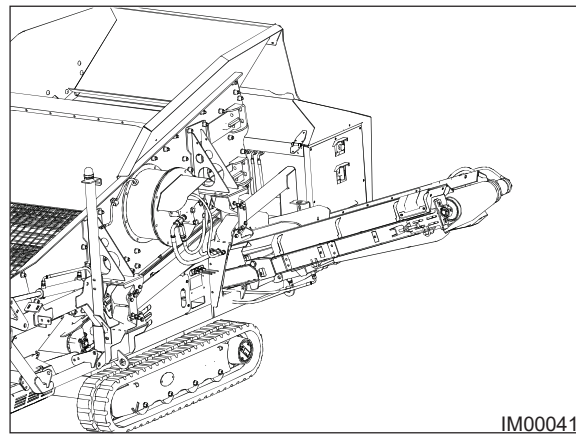

Fig: 7.14 - Fines Size Conveyor Working Position
6. Once the conveyor has reached the Working Position (Fig: 7.14), release the control lever.